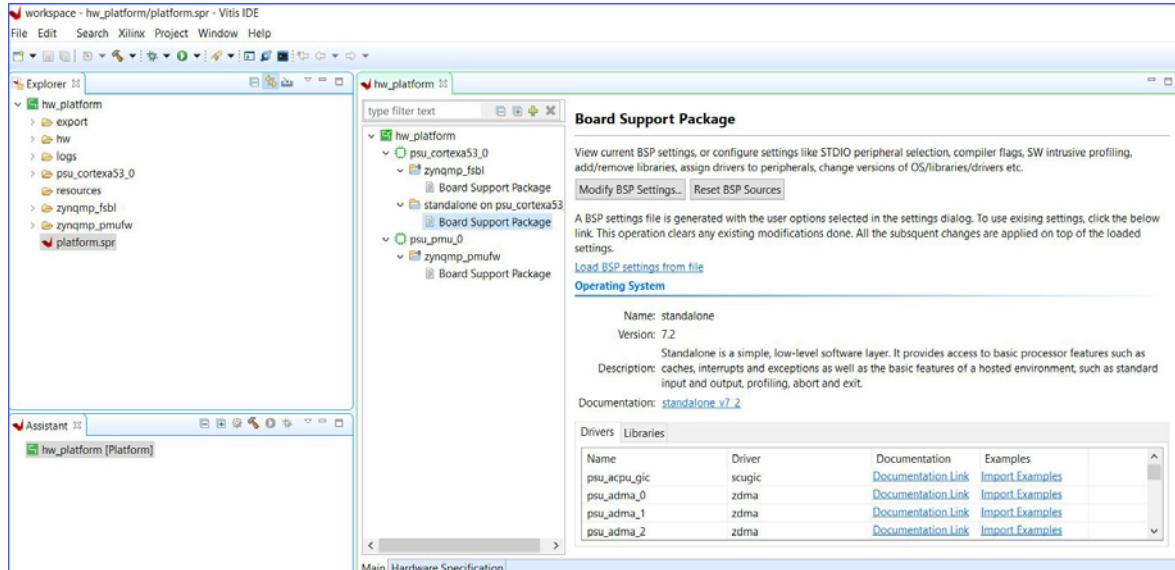

Figure 6: Board Support Package View in Vitis
10. Select **Board Support Package** under **psu_cortexa53_0**. The **Board Support Package** opens as shown in Figure 6.